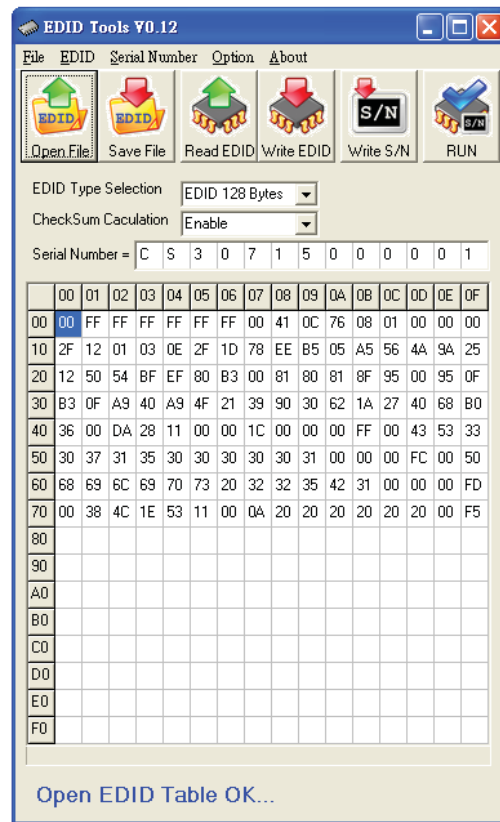

Fig.6
Step 3 : Load DDC file success as shown in Fig. 6 .